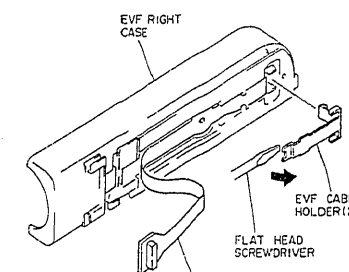

Fig. 2-156
- 1) Insert a flat head screwdriver between the EVF right case and EVF cable holder (2) and pry it in the direction of the arrow. Be careful that the EVF cable holder (2) and EVF cable are not damaged at this time. (See Fig. 2-156)